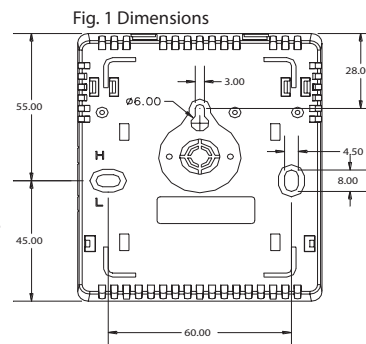

Fig. 2
- Follows the steps in fig. 2 to remove the cover.